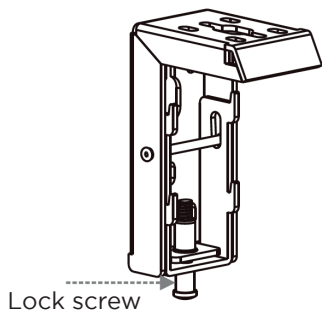

Fig. 6
3. Loosen the screw plug on the mounting brackets until the lower suspension is fully down. (Fig. 6 and 7)